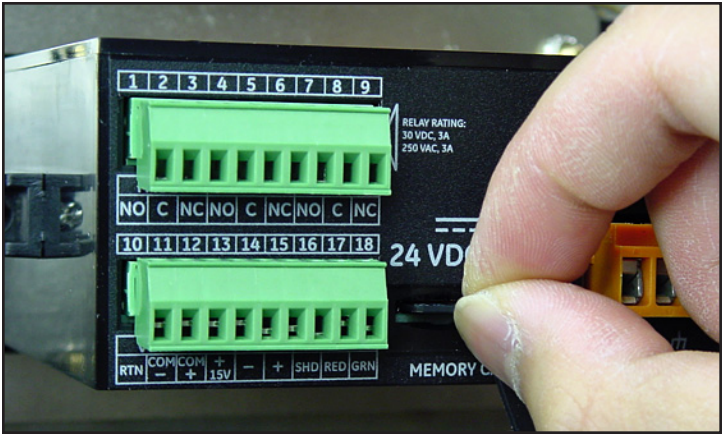

Figure 51: Removing the MicroSD Card
- 3. After the MicroSD card is partially ejected, pull it from the dew.IQ chassis (see *Figure 51* below).